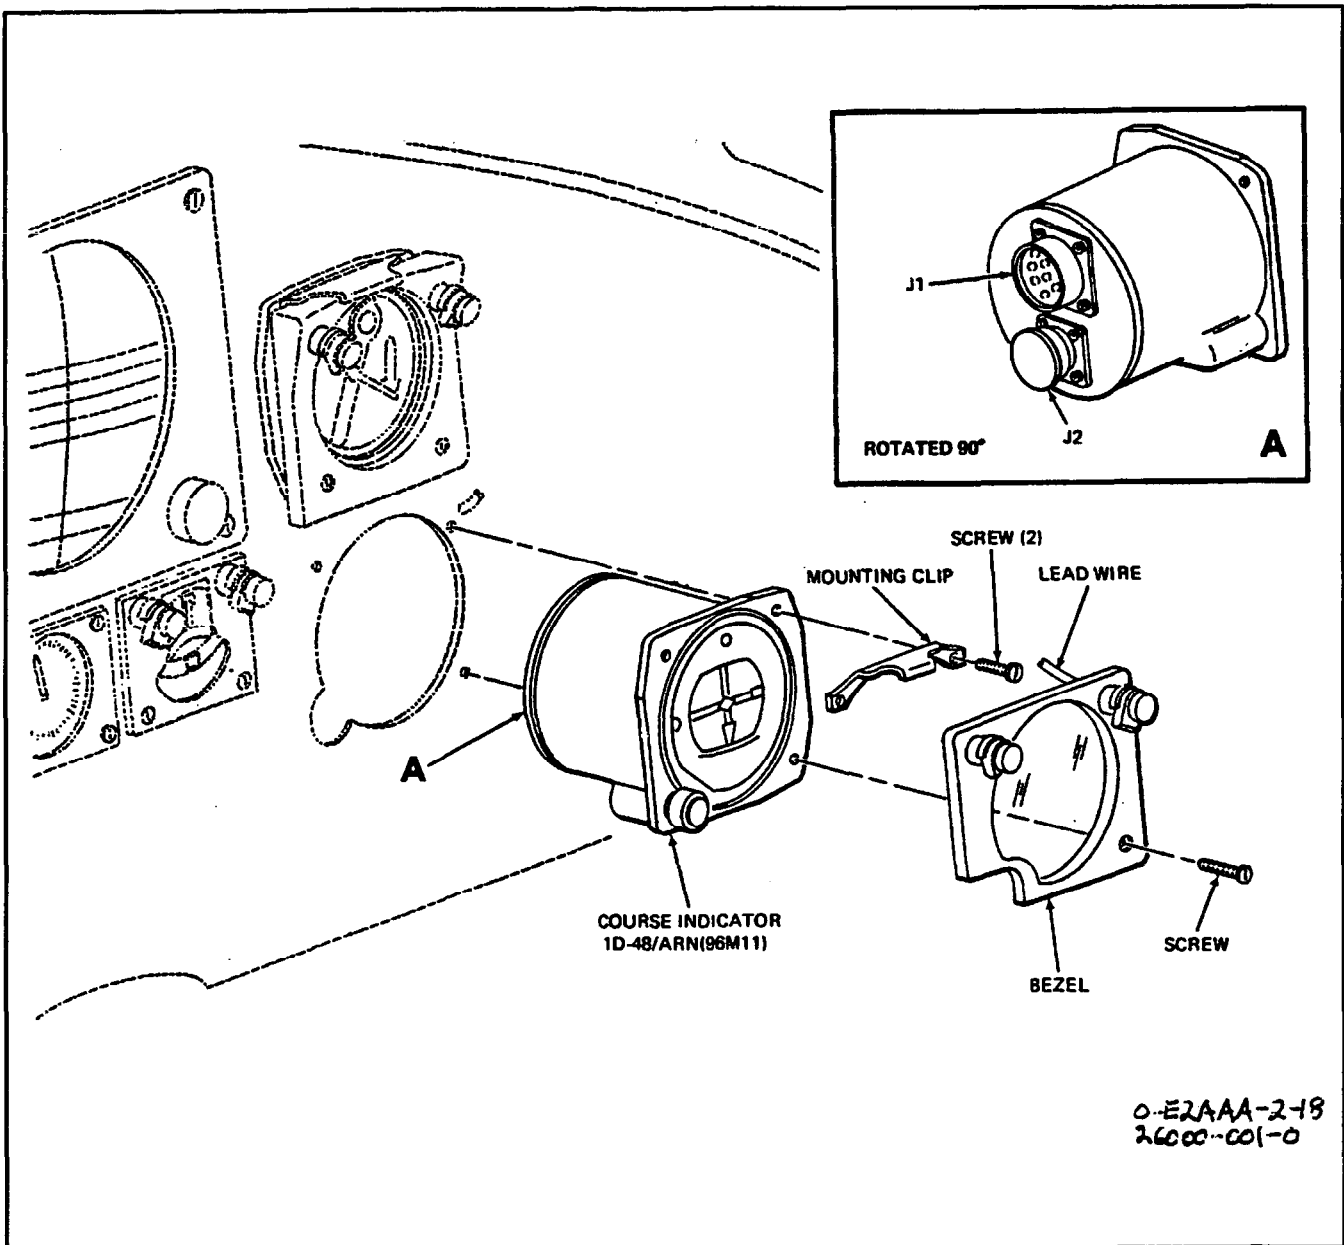

Figure 1. Removal and Installation of Course Indicator ID-48/ARN
2. The Course Indicator ID-48/ARN (hereinafter referred to as the indicator) (96M11) is used in conjunction with aircraft subsystems. The indicator is located in the co-pilot's instrument panel. Refer to WP003 00 (figure 1, item 11) for location of indicator.
3. REMOVAL. (See figure 1.)
4. **INSTALLATION.** (See figure 1.)